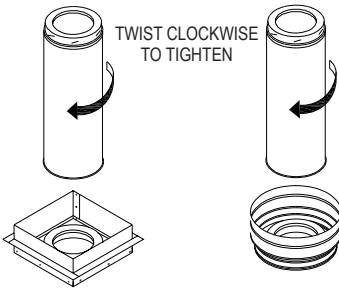

Figure 12
7. Assemble Chimney Sections: Lower the female end of the first Chimney Section in the Support Box (**Fig.12**). It will twist-lock clockwise onto the male end of the Support Box. Turn Pipe Sections firmly clockwise to